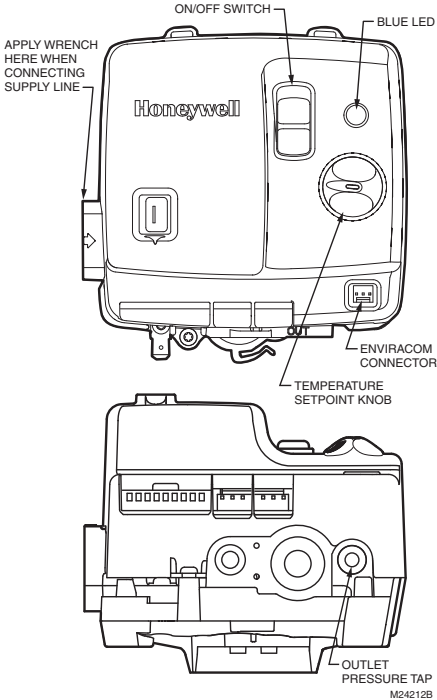

Fig. 7. Water heater controls.
7. Connect the pipe to the water heater control inlet to a maximum of 45 ft-lb of torque. Use a wrench on the square end of the water heater control. Refer to Fig. 7.